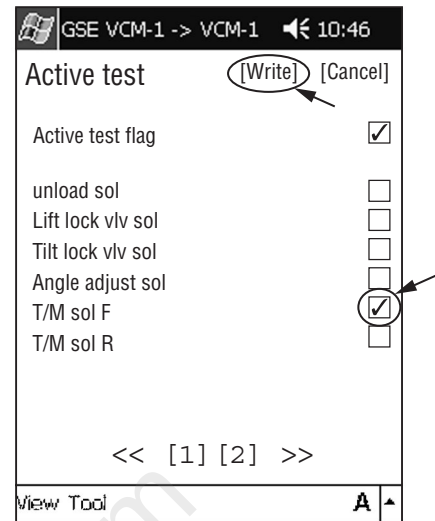

Fig. 2-11 Active Test Check Screen
- (5) Put a check mark in the check box in the T/M (F) or T/M (R) * solenoid and press “Write.” (Fig. 2-11)
- (6) As the same as above (4), check “YES” when the write validity check box is displayed and also check “OK” when the write completed check box is displayed.